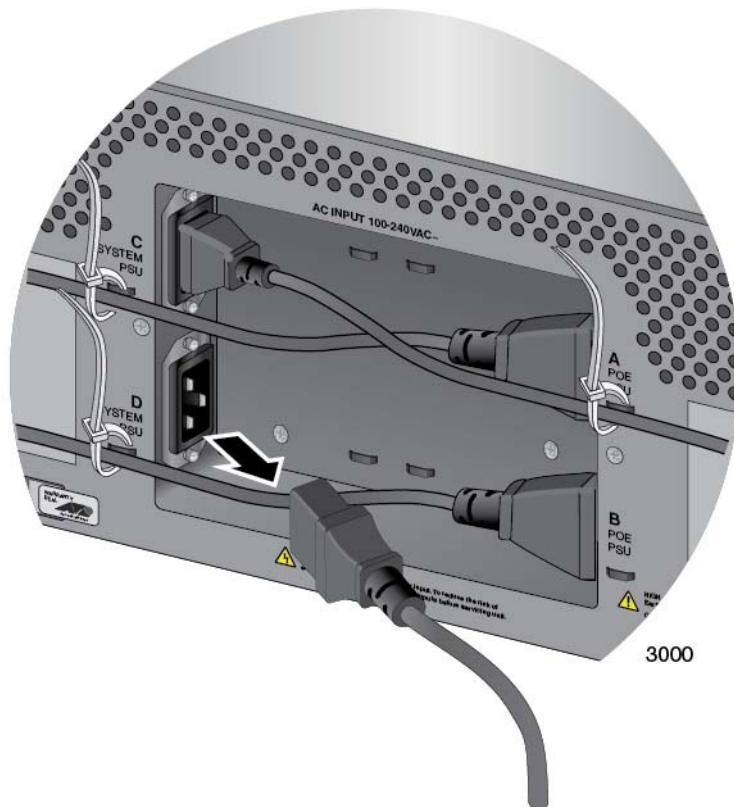

Figure 156. Disconnecting the AC Power Cord from the AC Socket on the Back Panel
1. Disconnect the AC power cord for the power supply from the AC power source and the corresponding AC socket on the back panel of the chassis. The figure in Figure 156 on page 257 shows the removal of the power cord from connector D, which corresponds to slot D on the front panel.